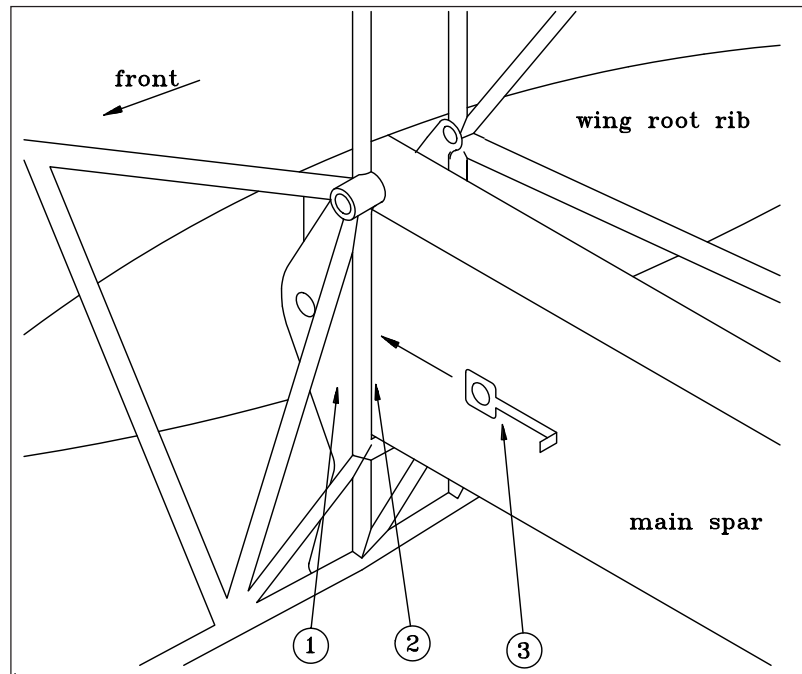

Figure 2 Shims Installation
If there is clearance between the main spar and the attachment brackets (1, Figure 2), use shims (3) like shown below which are to be slid in the front gaps (2).